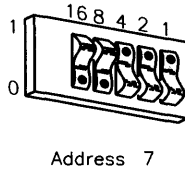

Figure 8-2.
- b. Set the address switches to 7 as shown in Figure 8-2, unless address 7 has been used elsewhere. Refer to the manual that came with the graphics tablet if you need additional switch settings.